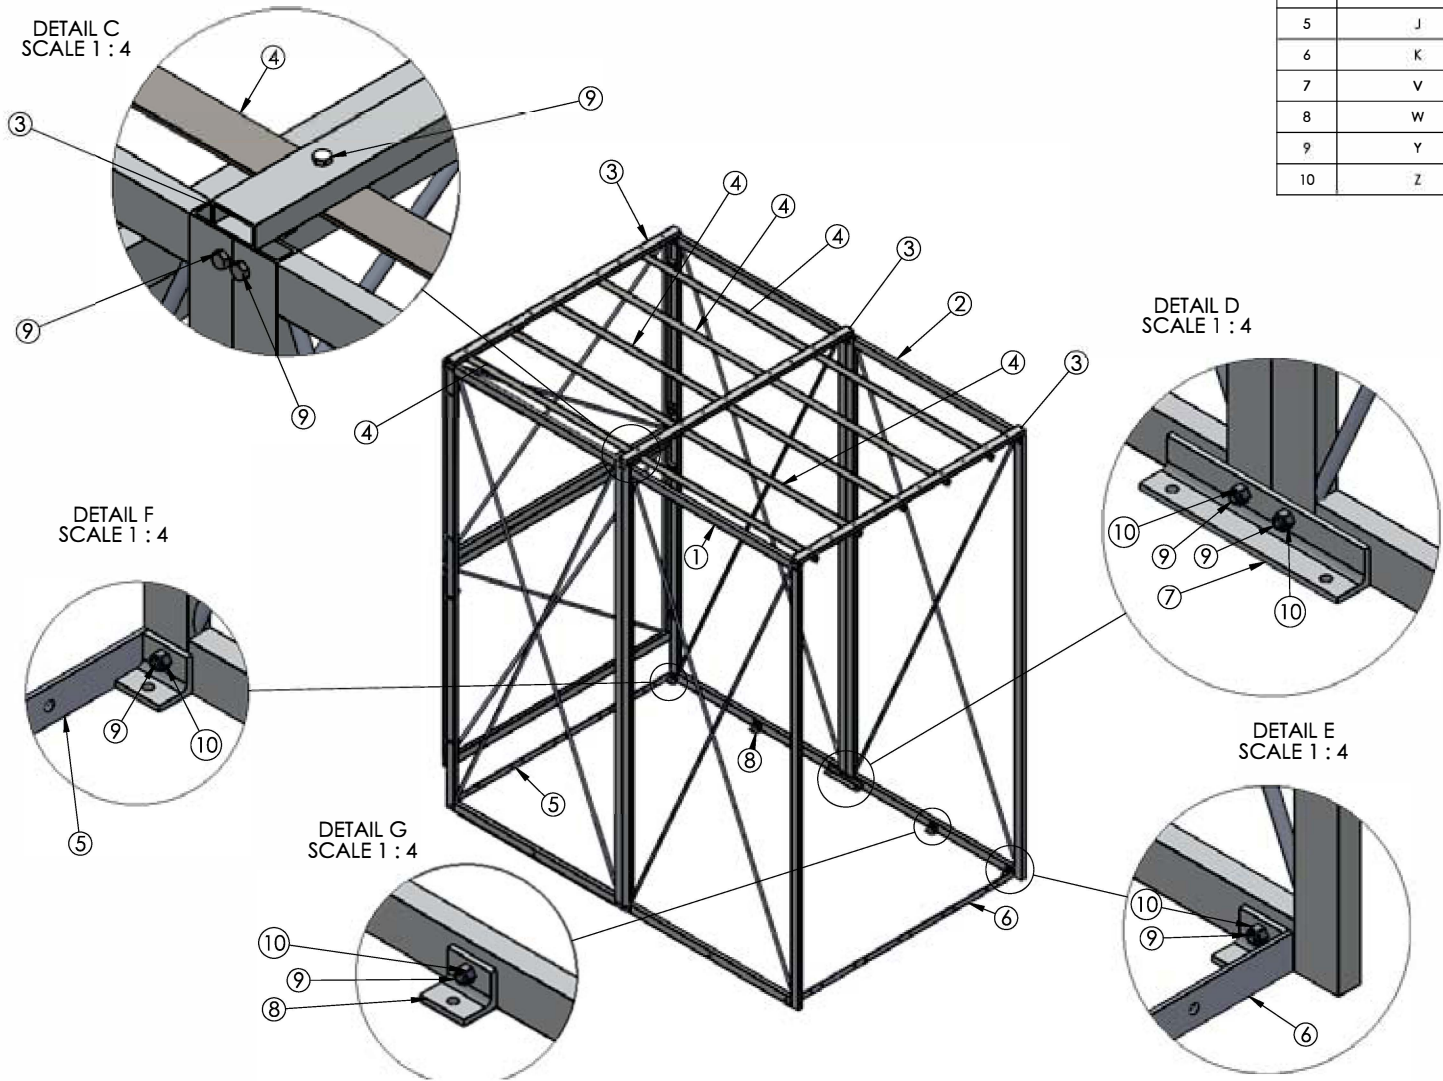

Figure 2
3. Once the first four frames are connected, tip the frames up from side AB. This will allow the frames to stand upright on their own. Attach frames “E” and “F” to sides A and B, respectively. **(Figure 2, detail C)** Use bolts Y and nuts Z to attach frames with “V” 2-hole angled mounting bracket on both sides. **(Figure 2, detail D)**
5. Attach 1-hole mounting bracket to each of front side frames (C, D, E, & F) in middle using bolts Y and nuts Z. **(Figure 2, detail G)**
6. Attach front “K” and rear “J” bottom supports to side frames using bolts Y and nuts Z, placing mounting feet to the inside. **(Figure 2, detail E & F)**